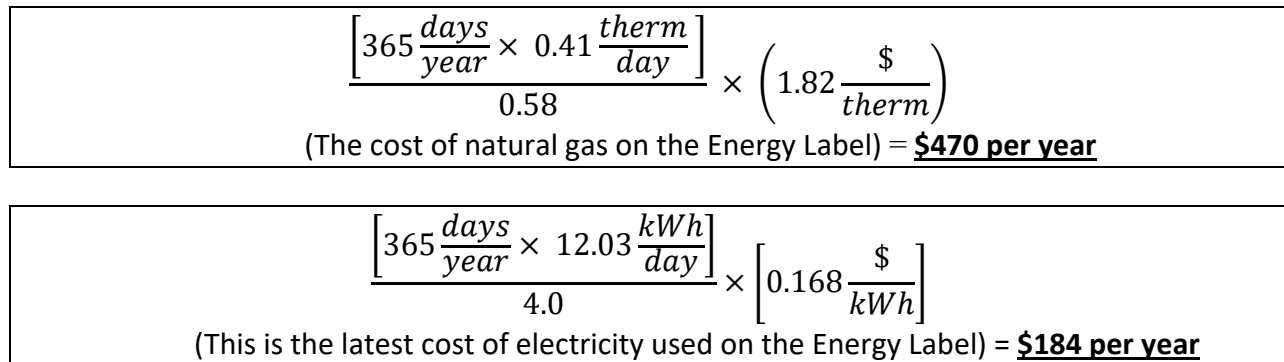

Figure 2. Utility cost comparison for an example house converting a 58% efficiency gas water heater to a HPWH.
**Operating Cost Savings.** The first potential consumer benefit of HPWHs is energy cost savings. For consumers with relatively high natural gas or other fossil fuel rates, switching to a HPWH may result in significant monthly savings on utility bills. For example, Figure 2 describes a 58% efficient gas tank water heater (typical for an older residential natural gas-fired tank water heater) could cost \$470 per year to provide domestic water heating to a three-person household (requiring approximately 41 kBtu/day, which is 0.41 therms/day or 12.03 kWh/day) with U.S. national average utility rates. A HPWH for that same household may use \$184 per year to operate, resulting in an annual cost savings of \$286 per year.
fuel water heater will result in cost savings if the natural gas or other fuel rate is relatively high compared to electricity. For example, the same example shown in Figure 2, but with a 98% efficiency tankless gas water heater converted to a HPWH with a COP of 3.0 will result in a utility cost savings of \$32 per year. Using a utility savings calculator is recommended in these situations, such as the Rocky Mountain Institute Green Upgrade calculator (RMI 2024).